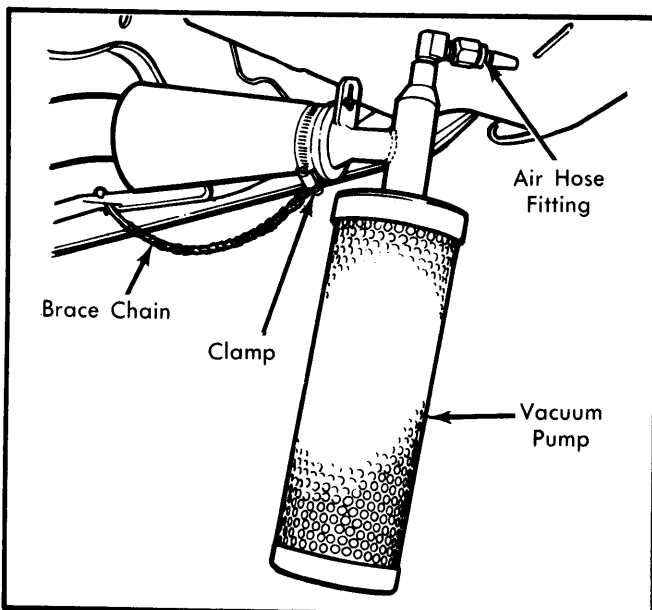

Fig. 4 Vacuum Aspirator Installation American Motors and General Motors Vehicles Only
1) Raise vehicle and attach vacuum aspirator device (J-25077 or equivalent) to exhaust pipe as shown in Fig. 4.